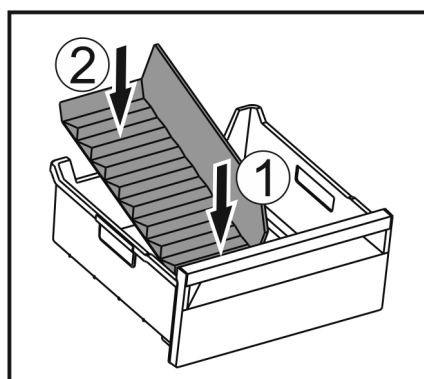

Fig. 169
- Insert the front part of the ice compartment divider. Fig. 169 (1)
- Lower the rear part of the ice compartment divider to the drawer bottom. Fig. 169 (2)